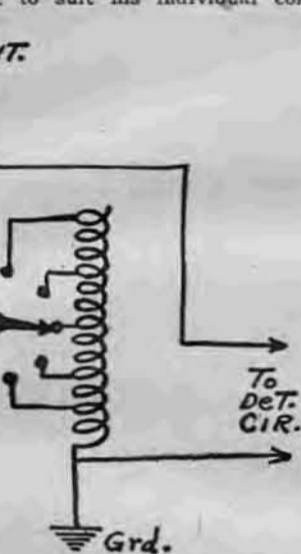

Figure 4
In addition to the variable inductance coil, a variable condenser is necessary to complete the single coil tuning system. This condenser is connected in series with the coil as shown in Figure 4. As previously stated, the antenna represents a certain capacitance (C) and thus when the variable condenser is connected in series with the antenna, we have two capacitances in series. When two or more capaci-